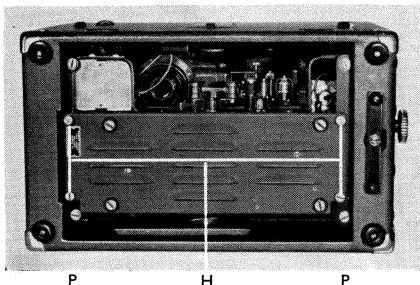
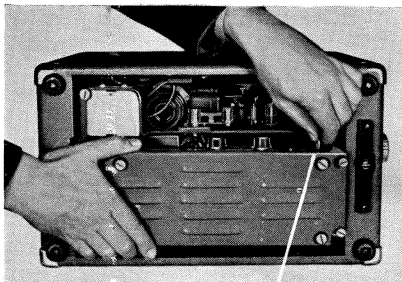

Figure 23
Figure 24
- (e) Exciter lamp lead wire LW, Figure 24, not connected.
Lay the projector on its side as shown in Figure 23. With a screw driver or a coin remove the four screws H, Figure 23. Pull gently on the lead wire LW, Figure 24, to disconnect the exciter lamp. Remove the amplifier by pulling straight out, being careful not to allow it to drop and damage the valves. Replace the amplifier in a similar manner. Be certain in replacing the amplifier to re-connect the exciter lamp lead LW, Figure 24.